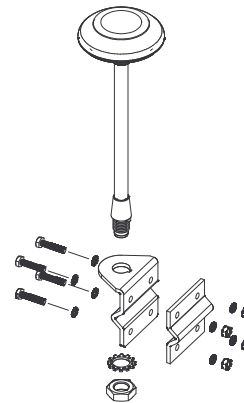

Figure 1- Mirror Mounting
1. Insert the Antenna Assembly into the Mirror Mount Clamp hole. See Figure 1.